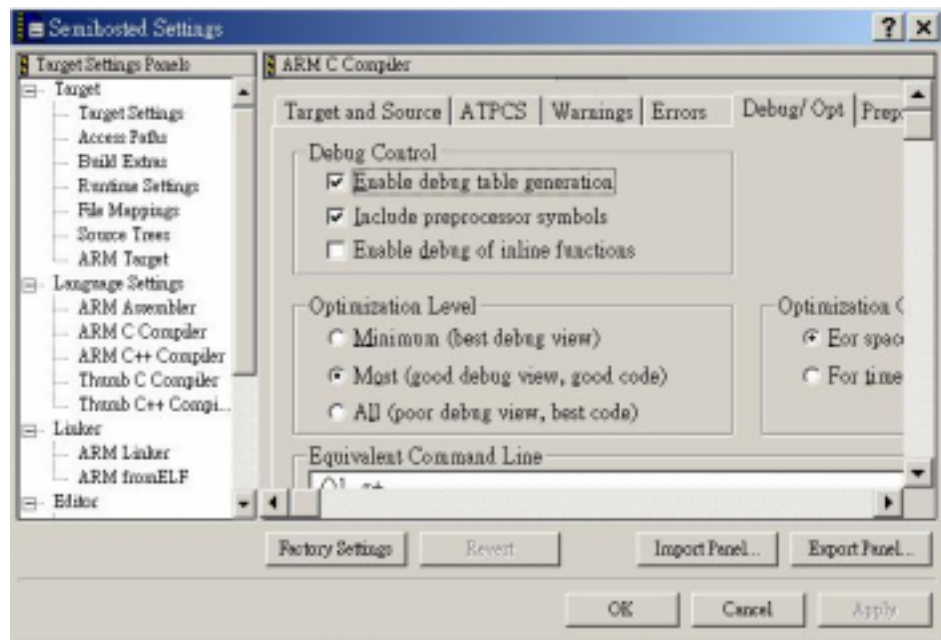

Figure 7 ARM C Compiler Panel
- (4) Click **ARM C compiler** in the **Language Settings** (Figure 7).
- (5) Make sure **Enable debug table generation** and **Include preprocessor symbols** in **Debug Control** are chosen. Click **Most (good debug view, good code)**.
- (6) Click **Apply**.